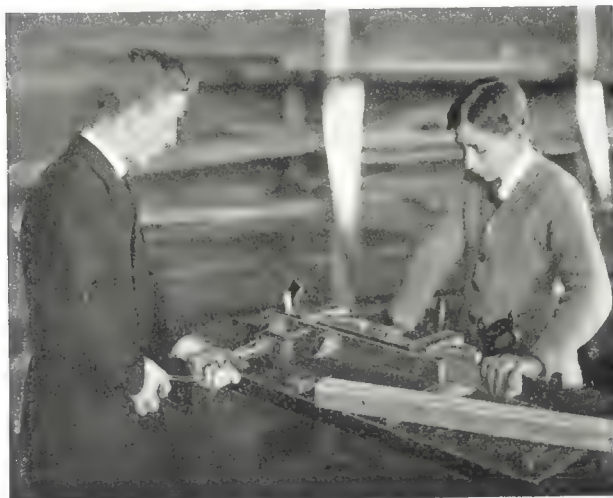

Fig. 21. Boys using jig to bore holes in legs of table. Dowell joint used.
- I. Work on Details—(a) Legs, Fig. 21.